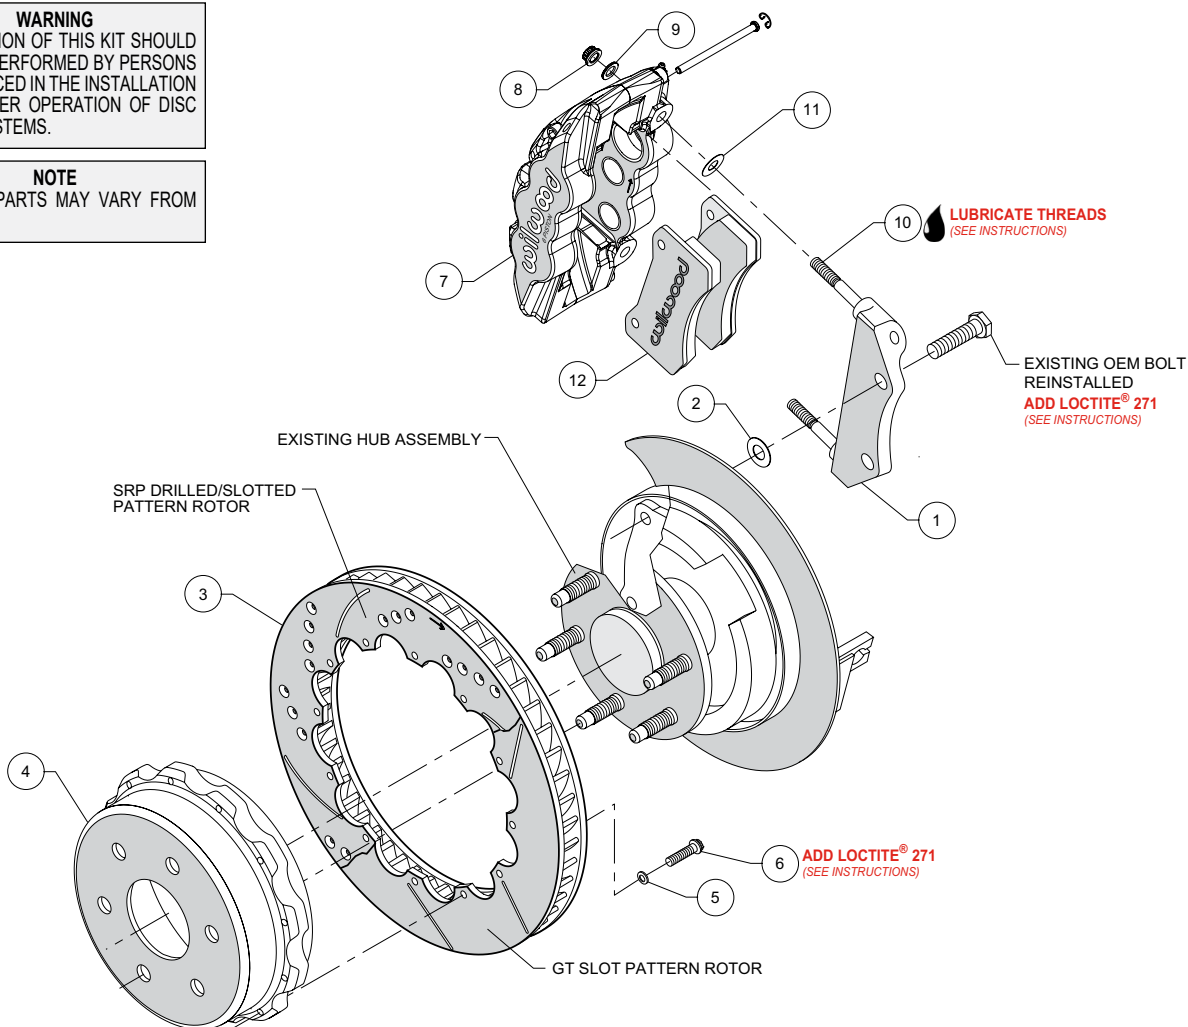

Figure 1. Typical Installation Configuration
NOTE: Numbers in parenthesis refer to the parts list and Figure 1 on the preceding pages.
- Install one shim (11) over each stud (10) on the radial mount bracket (1). Slide the caliper (7) in place over the studs and rotor and install the washer (9) and lock nut (8) to hold the caliper in place. The caliper bleed screws should be pointing up. Snug the lock nuts (8) and check that the rotor (3) is centered in the caliper (7). Add or subtract .029" shims (2) as necessary between the caliper mount bracket (1) and the caliper mount bosses on the upright assembly to center the caliper (7).
- Remove the two pad retaining pins from the caliper (7) by carefully popping out the pin retaining clips and sliding out the pins. Insert the brake pads (12) into the caliper from the bottom, Figure 1. With the friction material facing the rotor, secure the brake pads in place with the pad retaining pins and clips. Reinstall the caliper onto the caliper mounting bracket and temporarily tighten the lock nuts. Check that the top of the brake pad is flush with the outside diameter of the rotor. If not, adjust by adding or subtracting shims (11) between the caliper and the bracket.
- Adjust the parking brake shoes outward (using a drum shoe adjustment tool available at your local auto parts store) while spinning the hat (4) until a slight drag is felt against the hat/drum.
- Once all clearances have been checked, remove the wheel, caliper and rotor from the axle flange. Secure the caliper mounting bracket (1) to the upright using red *Loctite*® 271 on the bolt threads. Torque the bolts to manufacturer's specifications. Reinstall the rotor and again use several lug nuts to hold it in place. Lubricate caliper mounting studs and nuts with lightweight oil, reinstall the caliper, torque the caliper nuts (8) to 47 ft-lbs.